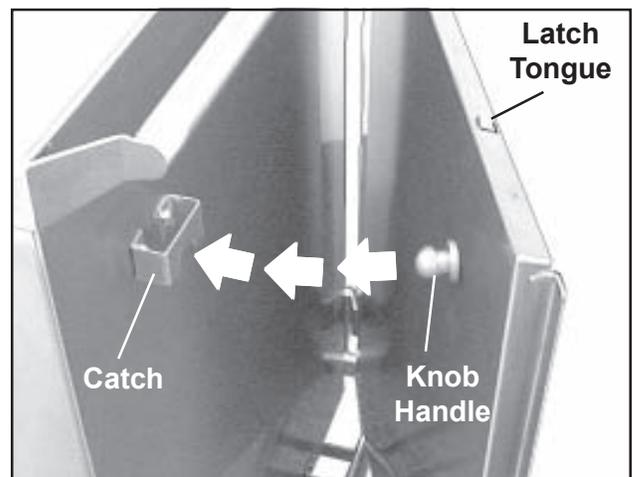

Figure 13. Latching a Door in the Full-open Position
The door can be opened a full 270° to lie flat against the side of the cart and can be latched in that position for greater convenience when loading or cleaning. When latched, the knob handle engages either a catch on the side of the cart (Figure 13) or the recessed handle (depending on case cart model) and is held in the full-open position.
Press down on the latch tongue (Figure 13) and pull the door free of the catch (or recessed handle).
1. Open both cabinet doors and latch them back (Figure 13).